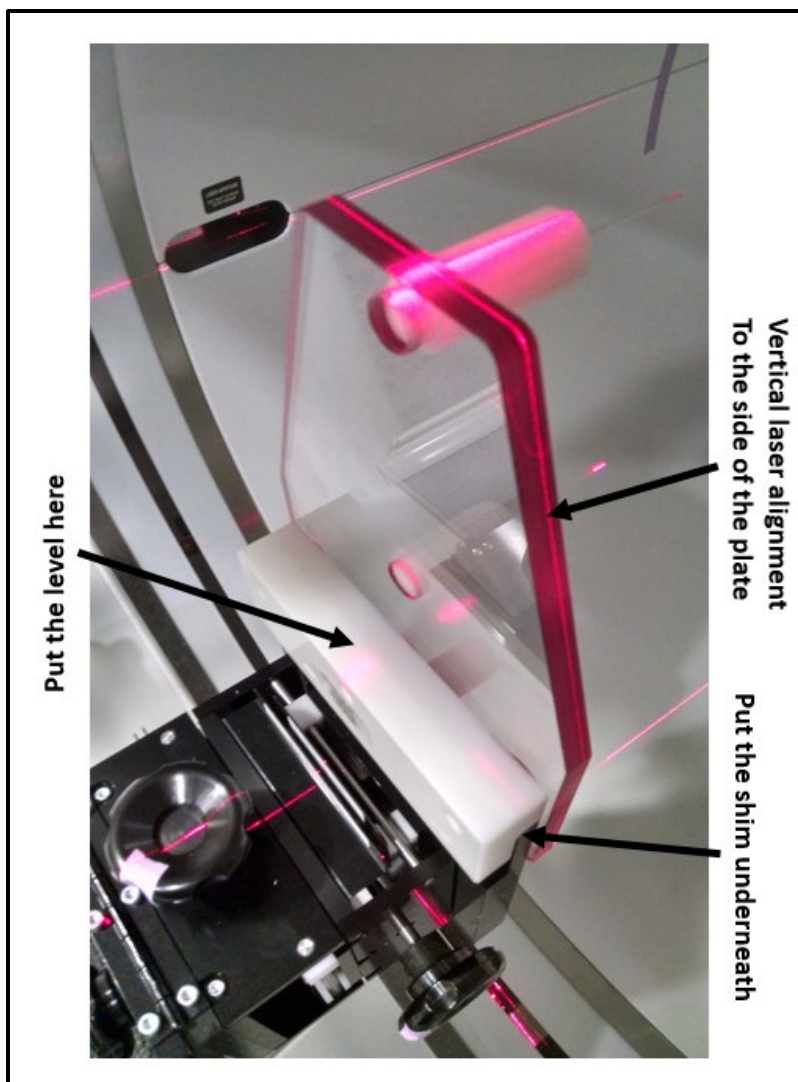

Figure 2.5: Vertical laser alignment.
- Adjust the pitch knob so that the phantom holder is aligned (along the side of the plate) with the vertical laser as shown in Figure 2.5.
- Place a level on the white clamp as shown in Figure 2.5. If required, add thin shims under the clamp to adjust the level on the respective side.